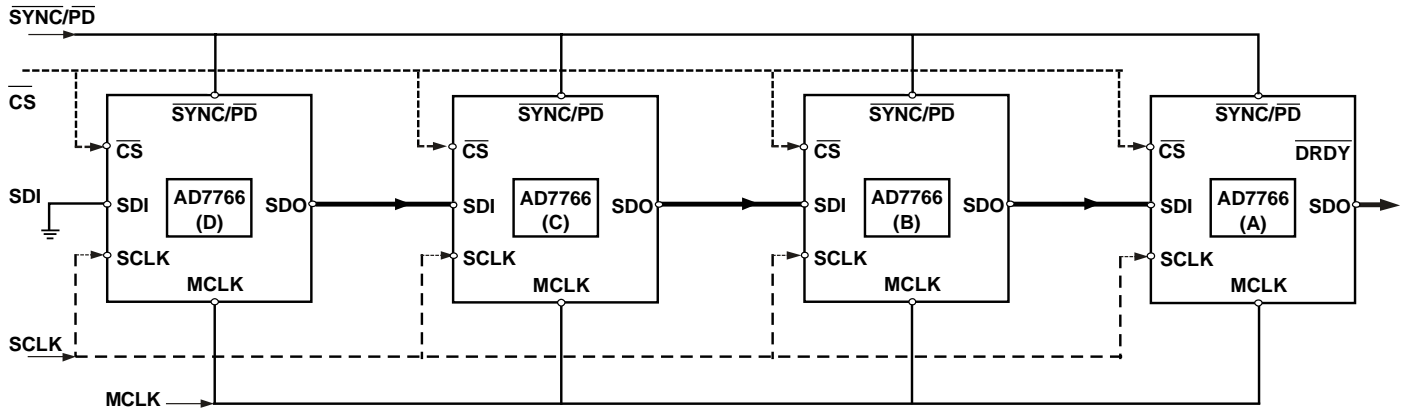
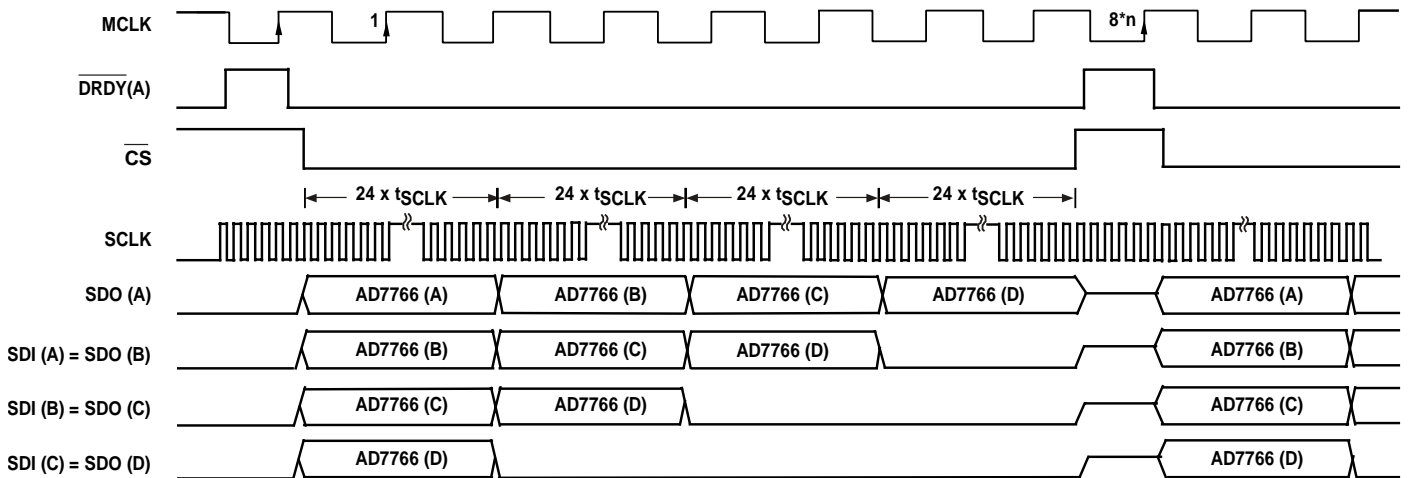

Figure 13 AD7766 Daisy chain configuration with 4 x AD7766 devices..
Figure 14 AD7766 Daisy chain Timing diagram. For AD7766 n=1, AD7766-1 n=2, AD7766-2 n=4. Driving the AD7766
The block diagram in Figure 13 shows the way in which devices must be connected in order to achieve daisy chain functionality. This scheme operates by passing the output data of the SDO pin of an AD7766 device to the SDI input of the next AD7766 device in the chain. The data then continues through the chain until it is clocked onto the SDO pin of the first device on the chain.
An example of a daisy chain of four AD7766 devices is shown in Figure 13 and Figure 14. In the case illustrated in Figure 13 the output of AD7766 (A) is the output of the full daisy chain. The last device in the chain (AD7766(D)) will have its Serial Data In (SDI) pin connected to ground. All the devices in the chain must use common MCLK, SCLK, \overline{CS} and $\overline{SYNC/PD}$ signals.
After applying a $\overline{SYNC/PD}$ pulse to all the devices there is a delay (as listed in Table 7) before valid conversion data appears at the output of the chain of devices. As shown in Figure 14 the first conversion result is output from the device labeled AD7766(A). This 24-bit conversion result is then followed by the conversion results from the devices B, C and D respectively with all conversion results output in an MSB first sequence. The stream of conversion results are clocked through each device in the chain and are eventually clocked onto the SDO pin of the AD7766 (A) device. The conversion results of the all the devices in the chain must be clocked onto the SDO pin of the final device in the chain while its \overline{DRDY} signal is active low. This is illustrated in the example shown where the conversion results from devices A, B, C, & D are be clocked onto SDO (A) in the time between the falling edge of \overline{DRDY} (A) and the rising edge of \overline{DRDY} (A).
As shown in Figure 13 the number of SCLK falling edges that occur during the period when \overline{DRDY} (A) is active low must match the number of devices in the chain multiplied by 24 (the number of bits that must be clocked through onto SDO (A) for each device).